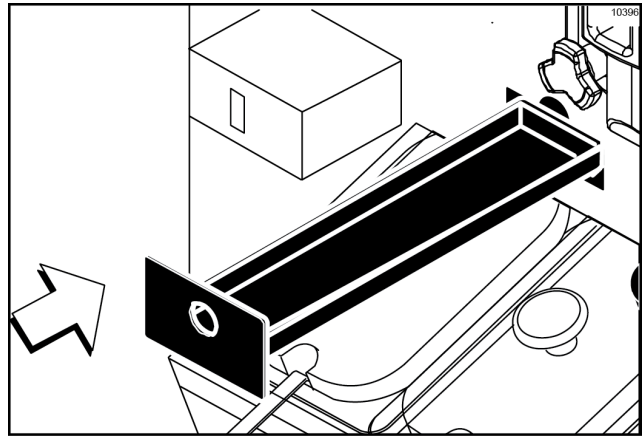

Figure-141
16. Slide the long drip pan into the hole in the front panel above the syrup topping dispensers. (See Figure-141.)